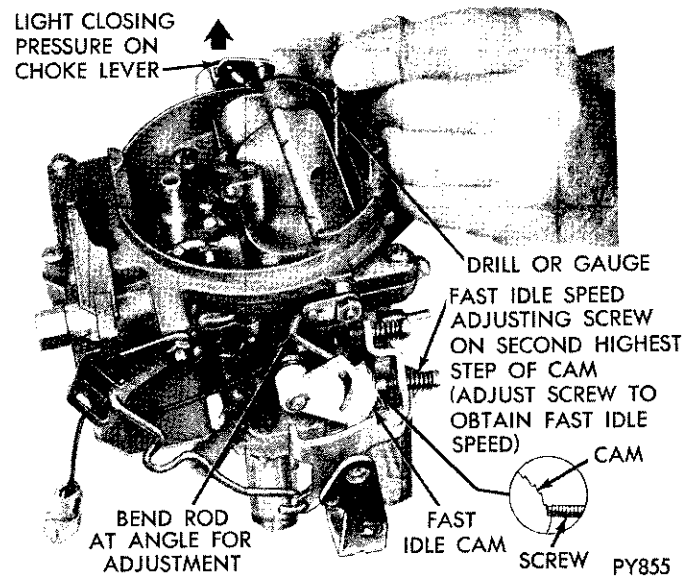

Fig. 21—Fast Idle Speed and Cam Position Adjustment
- (1) With fast idle speed adjusting screw contacting second highest speed step on the fast idle cam, move choke valve toward closed position with light pressure on choke shaft lever.
- (2) Insert specified drill (see Specifications) between top of choke valve and wall of air horn (Fig. 21). An adjustment will be necessary if a slight drag is not obtained as drill shank is being removed.
- (3) If an adjustment is necessary, bend fast idle connector rod at angle, using Tool T109-213, until correct valve opening has been obtained.